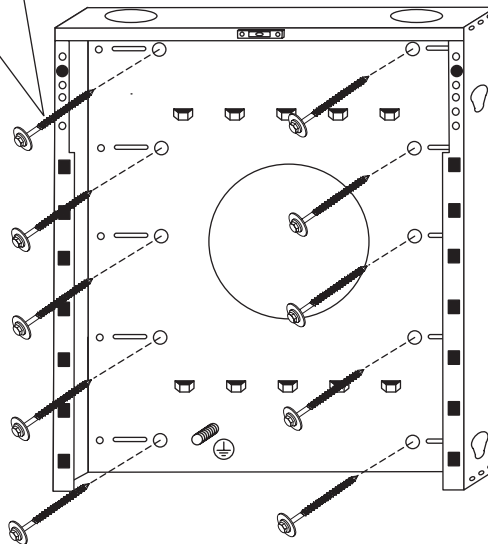

FIGURE 5
Place the MiniRaQ(TM) main back panel against the wall in the preferred location. Refer to Figure 5 on Page 5 for correct mounting hole pattern.
Place the MiniRaQ(TM) main back panel against the wall in the preferred location. Refer to Figure 5 on Page 5 for correct mounting hole pattern. Using integrated level, adjust panel and to level and mark a minimum of the two top, two bottom and two middle 1/2" clearance holes (Hole C) Drill 5/32" pilot holes for 3/16" bolts, or 3/16" for 1/4" bolts pilot holes as required by manufacturer. Apply TAPCON® or equivalent concrete double threaded screws. A minimum 2 1/4" length is recommended for full rated loading of MiniRaQ. Lift main back panel and hand tighten bolts and washers (not supplied) most of the way into wall. Tighten all screws. Next go to bracket installation details (pg 7).